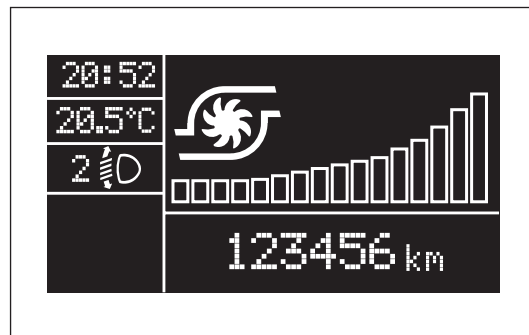

fig. 95
- Screen with turbocharger pressure: fig. 95.